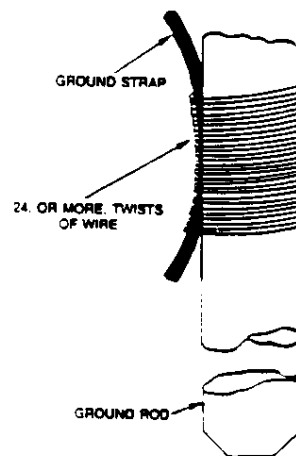

Figure 5
(2) If you can't find a clamp, bind the ground strap, copper cable, or heavy wire substitute, to the ground rod with at least 24 turns of stripped telephone wire or other bare wire. Next, tightly twist the ends of the wire together. Tape the connection to block out moisture. See Figure 5.
(3) Do not tie the ground strap or the heavy wire substitute to the rod or loop it around the rod. The strap must be connected only to the terminal screw or bound with wire to the rod.